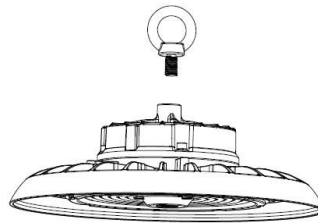

Figure 1
1. Screw the ring into the top of the fixture and tighten (Figure 1).